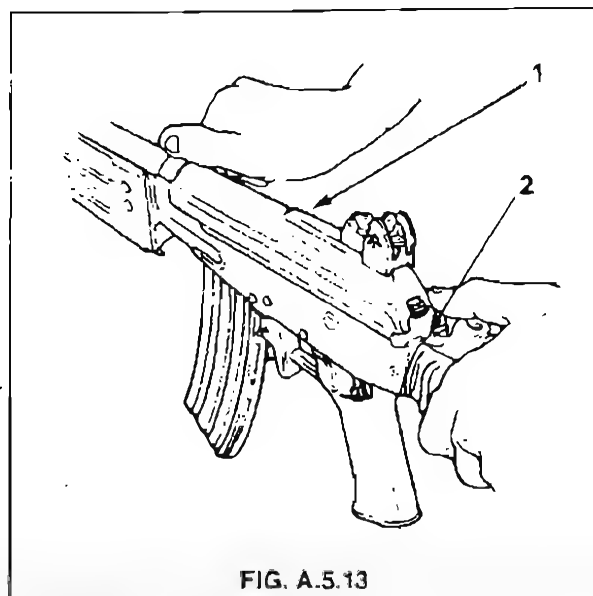

FIG. A.5.13
7. Hold cover with right hand. fit cover's front end to the piston guide tube's rear end and cover's rear end to the rifle's receiver. You should be able to see the return spring guide located in the body through the cover opening. Cock the rifle and make sure that the return spring catch is engaged and is now located in the cover opening. See Fig. A.5.13.